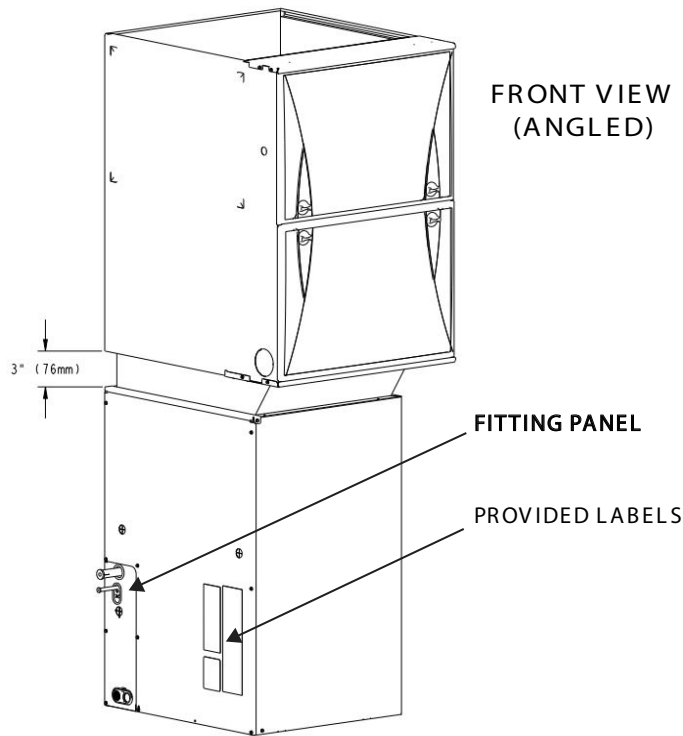

Fig. 2 – Downflow Installation with Coil Rotated 90°
6. Adhere the provided labels to the outside of the plenum or casing on a clean, dry and firm surface (Fig. 2).
5. Adhere the provided labels to the outside of the plenum or casing on a clean, dry and firm surface (Fig. 2).
IMPORTANT: Installing "A" coils rotated 90° from the front of the furnace in downflow applications can cause water blow off or coil freeze up. This is due to the concentration of air on one coil slab or lack of air on the opposite coil slab. If the airflow is high due to ductwork or other causes, and there is a chance for water blow off, it is recommended that a 3" field-supplied adapter be placed between the coil and the furnace to allow the air to distribute evenly to both coil slabs (Fig. 2).